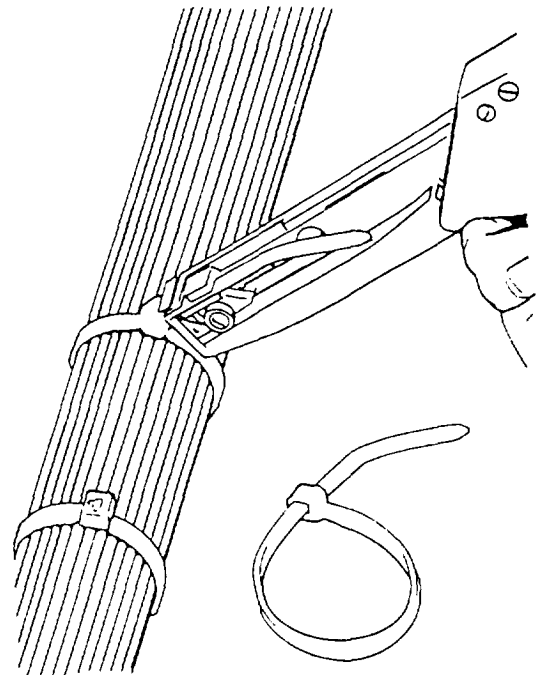
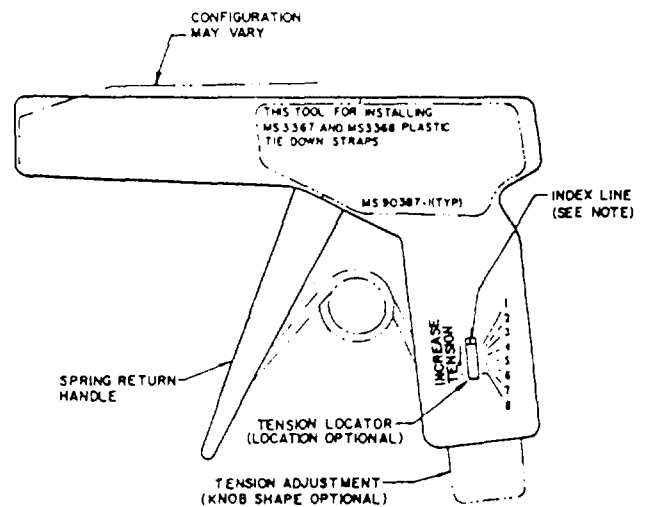

Figure 2-65.—Installing self-clinching cable straps.
Figure 2-66.—Military standard tool for self-clinching cable straps.
Installing self-clinching cable straps is done with a military standard hand tool (fig. 2-65). An illustration of the working parts of the tool is shown in figure 2-66. To use the tool, follow the manufacturer's instructions. Do not use nylon cable straps over wire bundles containing radio-frequency (RF) coaxial cable. Do not use nylon straps in areas where failure of the strap would allow the strap to fall into movable parts or in high-temperature areas (above 250°F).